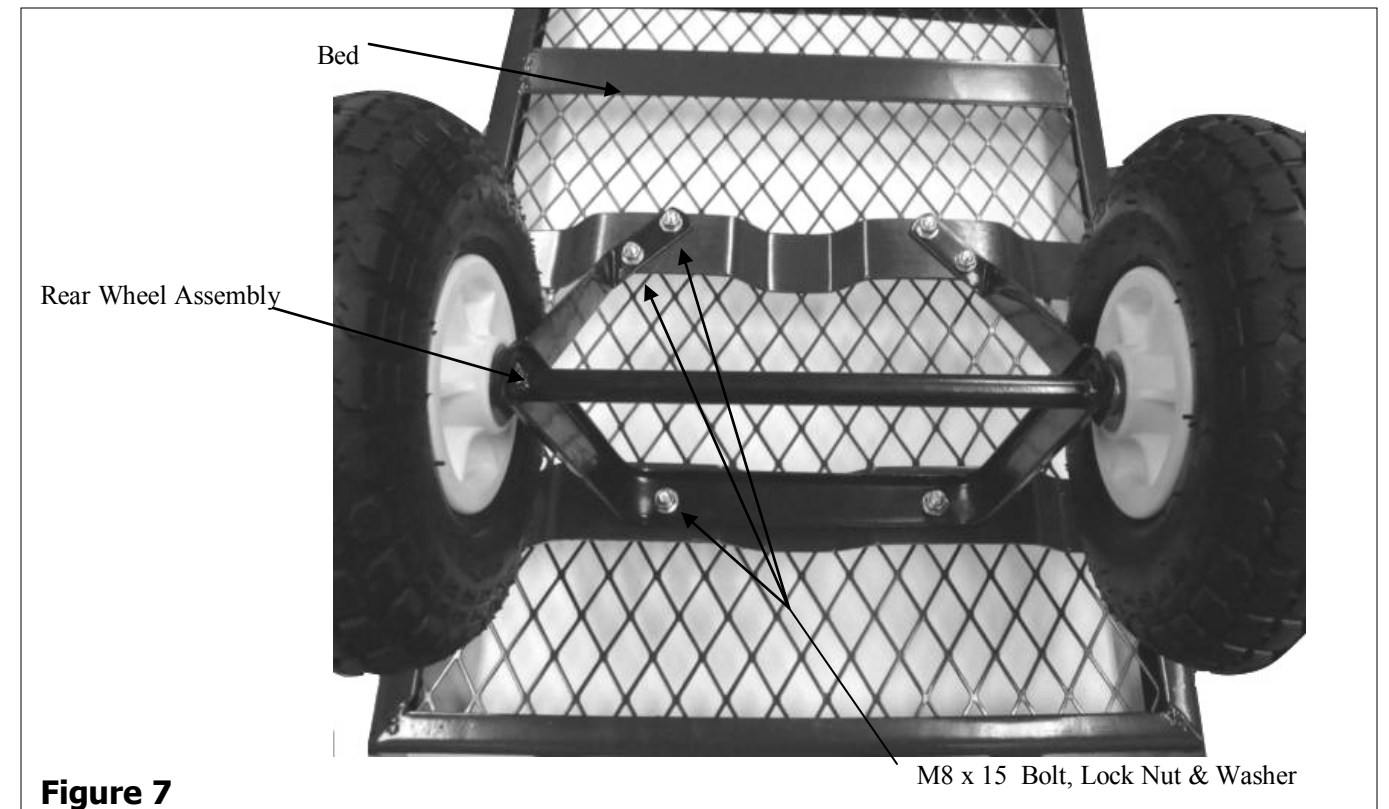

Figure 7
8. With the Bed turned upside down, attach the Back Wheel Assembly to the Bed by inserting six M8 x 15 Steering Bolts from under the bar first through the holes located on the metal support bars on the under side of the Bed then into the holes located on both the Left and Right Rear Axle Brace and also the Rear Axle Support. Next insert Washers onto the Bolts the secure with Lock Nuts. See Figure 7.